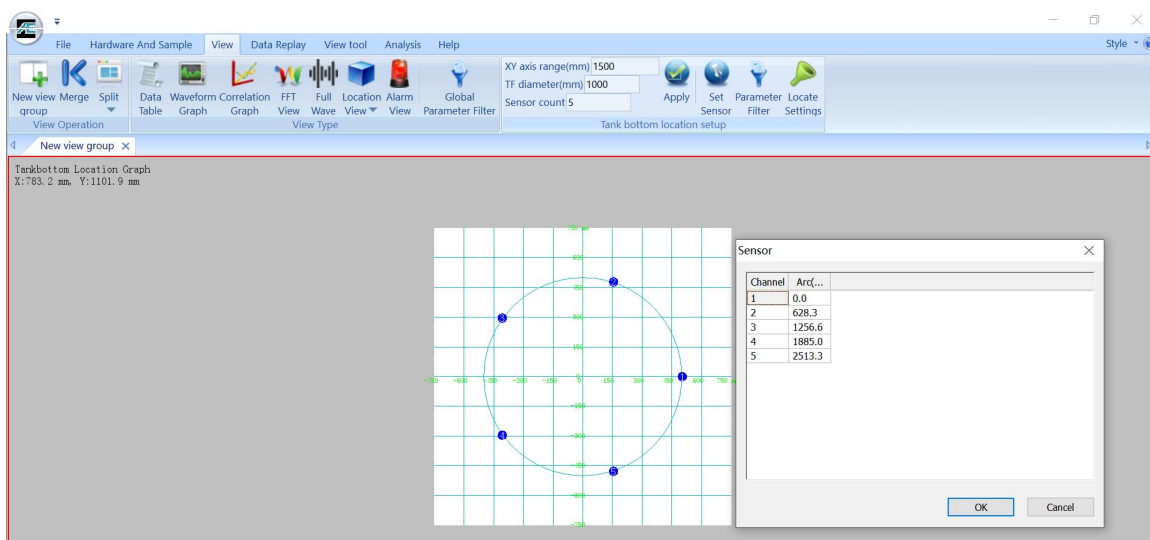

Fig. 6-68 Default view of Tank Bottom Location Graph
- a. Firstly, confirm the counter clockwise arc length distance of all sensors relative to Sensor #1, and then on the basis of simple modification, click the **[Set Sensor]** button to pop up the dialog box as shown in Figure 6-68.